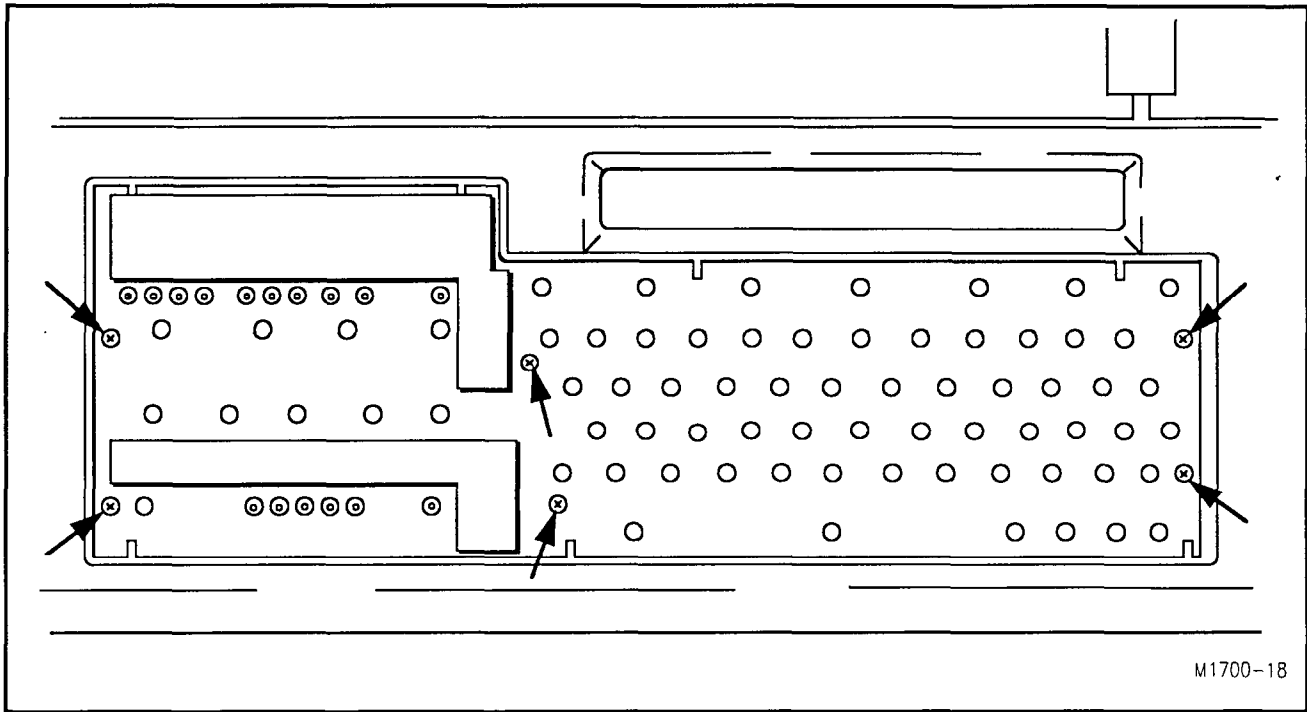

Figure 7-4. User Interface Screw Locations.
3. Remove the six screws shown in Figure 7-4.